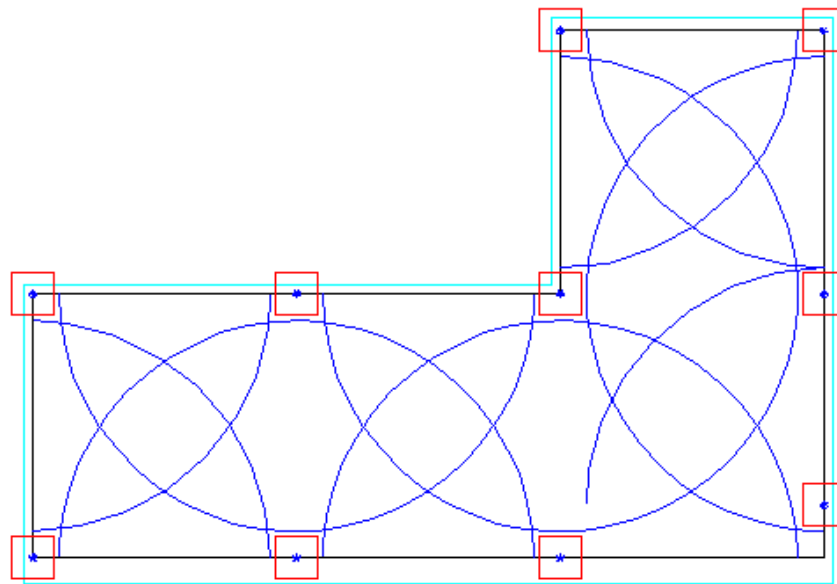

Figure 4-20
3. Select *Mainline|Water Supply* and place the water supply to the right of the polygon. Ensure the "Calculate pressure?" check box is enabled so that IRRICAD will calculate the system duty for the system. Click [OK] to accept and close the dialog. To decrease the size of the water supply and subsequent hydraulic symbols go to *Settings|Miscellaneous*. Change the "Base database symbol size" to 3 (1) making sure that "Update database dymbols" is enabled. Click [OK]. The hydraulic symbols on the screen will now appear smaller.
5. Draw the Autohead lasso around the inside border of the polygon. To close the lasso *Right-click|Close*. Once the polygon has been closed it will be filled with sprinklers. See Figure 4-20. (Note: if the *Area* lasso is on the polygon boundary and so is the *Autohead* lasso, you may find that some arcs do not orientate inside the area. Simply move the sprinkler by selecting *Modify|Select Object* and then *Modify|Move* and move the sprinkler slightly inside the boundary and left-click to place. This method can also be used for moving any sprinkler to a more appropriate place.)